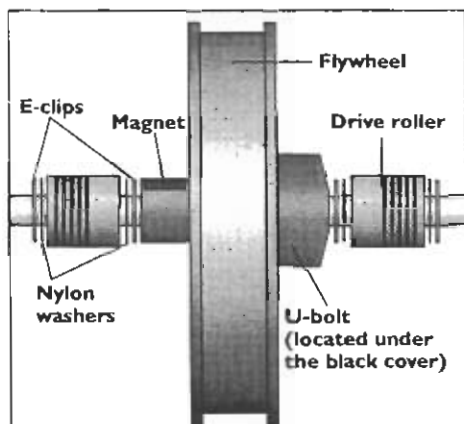

Figure 21
1. Replace the E-clips, nylon washers and drive rollers onto the axle (Figure 21).